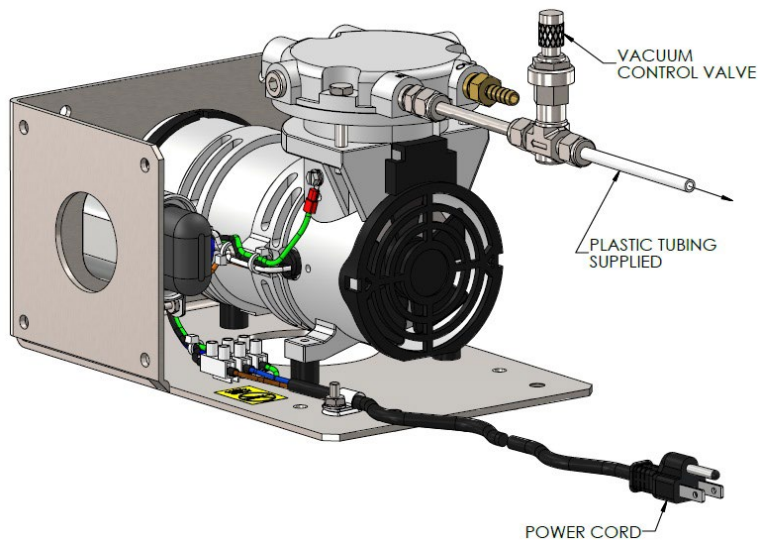

Figure 12: Vacuum Pump Assembly
10. If analyzer has vacuum pump, connect a line from the moisture sample outlet to the pump vacuum control valve (see **Figure 12**). For systems that don't have the HSS, use the provided polyethylene line. For systems with the HSS, use $\frac{1}{4}$ in stainless-steel line.